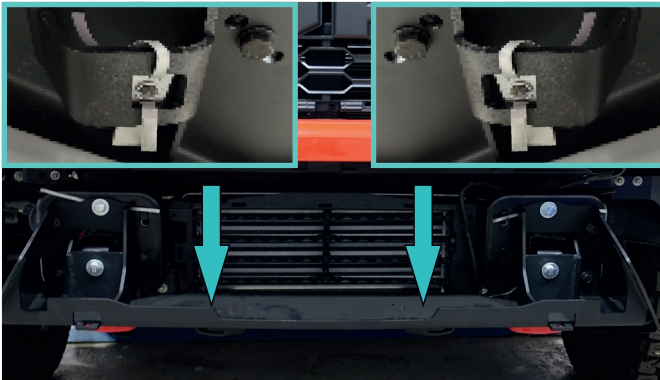

Fig.40
38. Install insert nuts M10 with cables (item T) (fig.40).